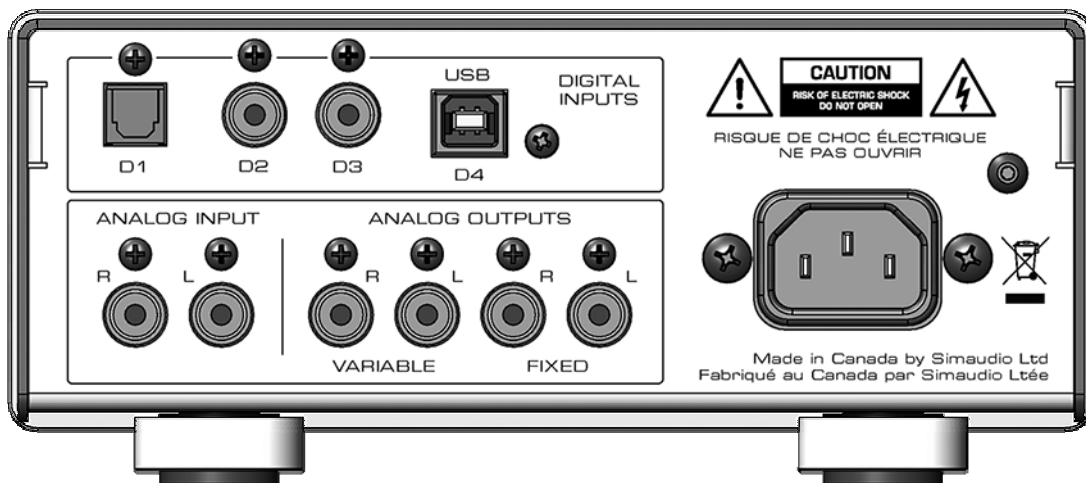

Figure 2: Nêo 230HAD Rear panel
The rear panel will look similar to Figure 2 (above). There are four (4) digital inputs labeled D1, D2, D3 and D4. The D1 input is on an optical Toslink connector; both the D2 and D3 inputs are on a S/PDIF connector; the D4 input is on a USB type B connector. Directly below there is one (1) pair of single-ended analog inputs on RCA connectors labeled "A1".